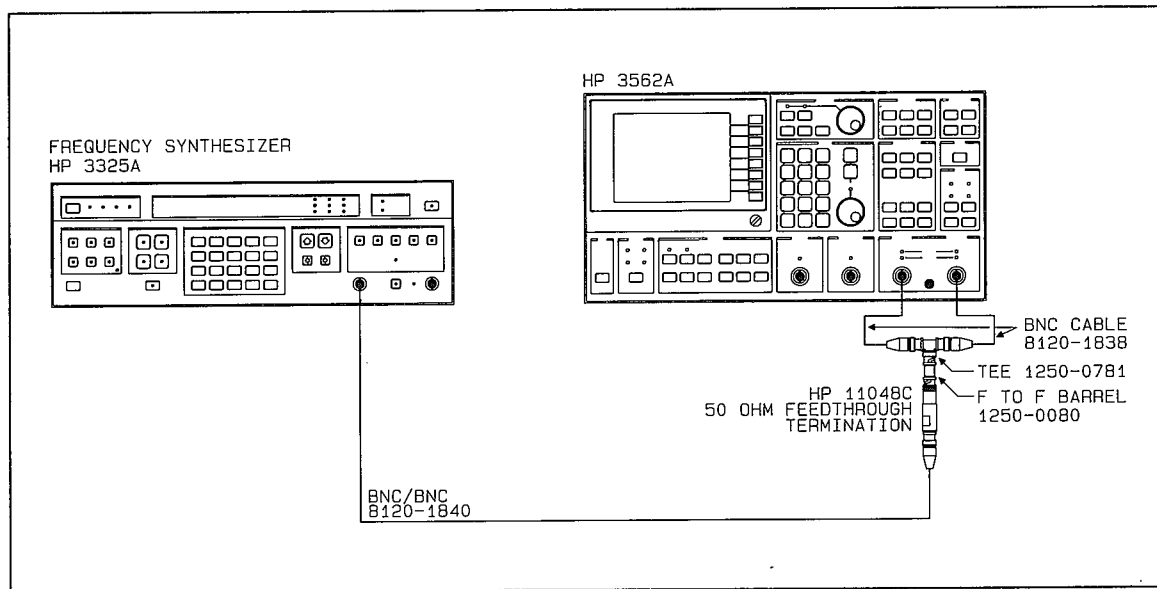

Figure 2-15 Anti-Alias Filter Response Test Setup
A. Connect the test instruments as shown in figure 2-15. Refer to "Initial Equipment Setup," paragraph 2-20, for unspecified parameters.